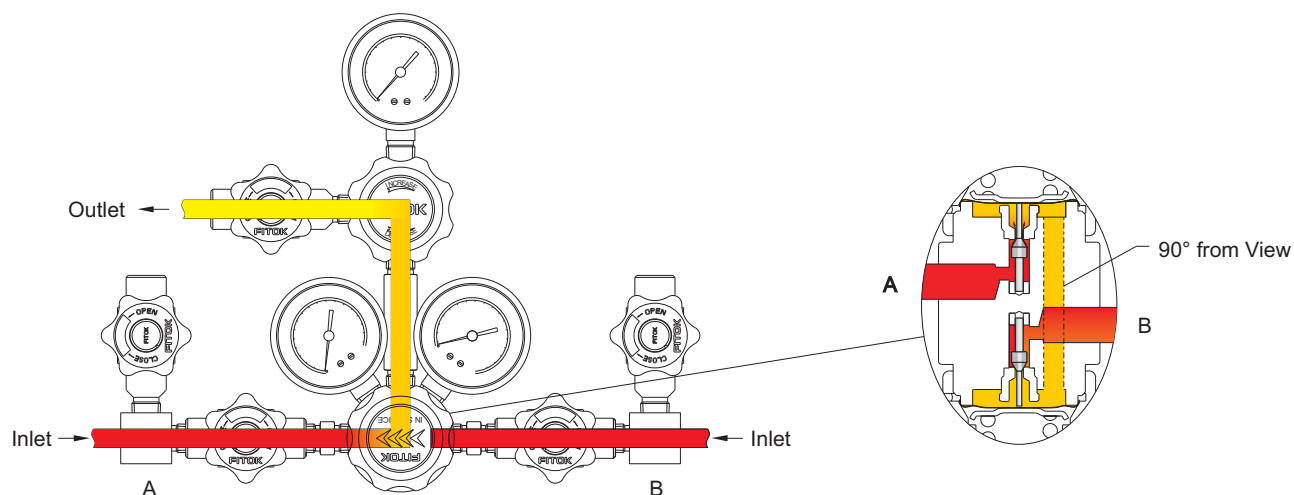

Fig. 2
*Fig. 2 If side A is chosen as the gas source, the handle should be turned clockwise until the "IN SERVICE" arrow is pointing at side A. At this time, the set pressure of side A is higher than the fixed outlet pressure of side B. Consequently, the diaphragm of side B regulator moves to enable the stem to close the regulator.*